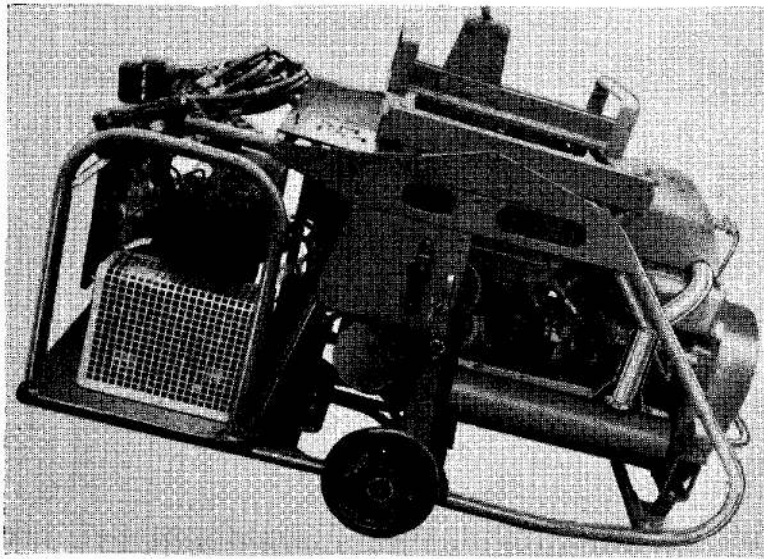
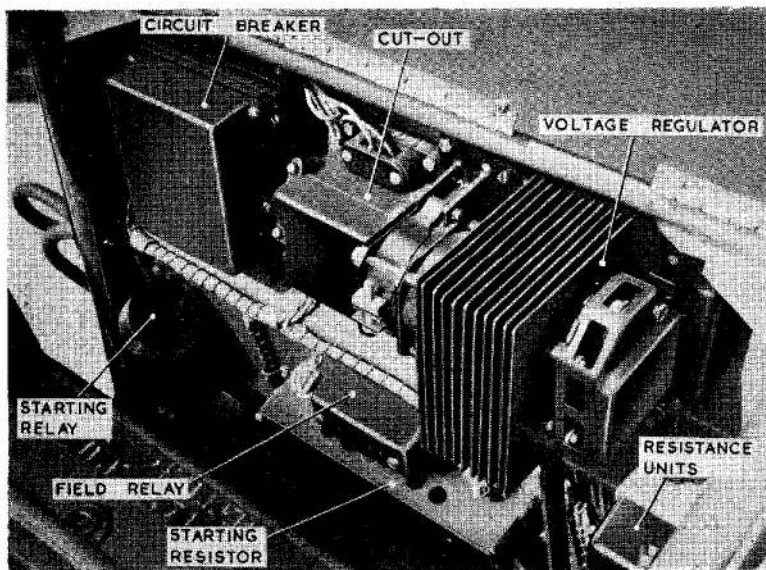
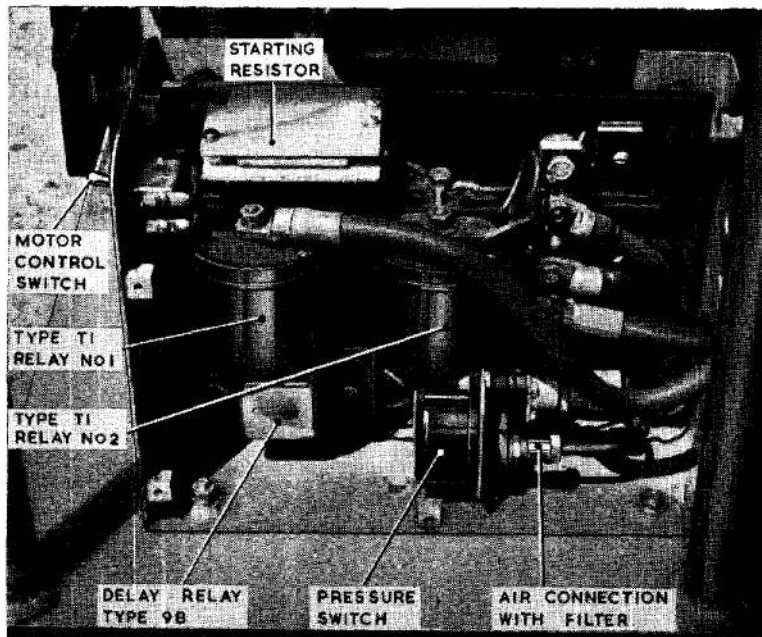
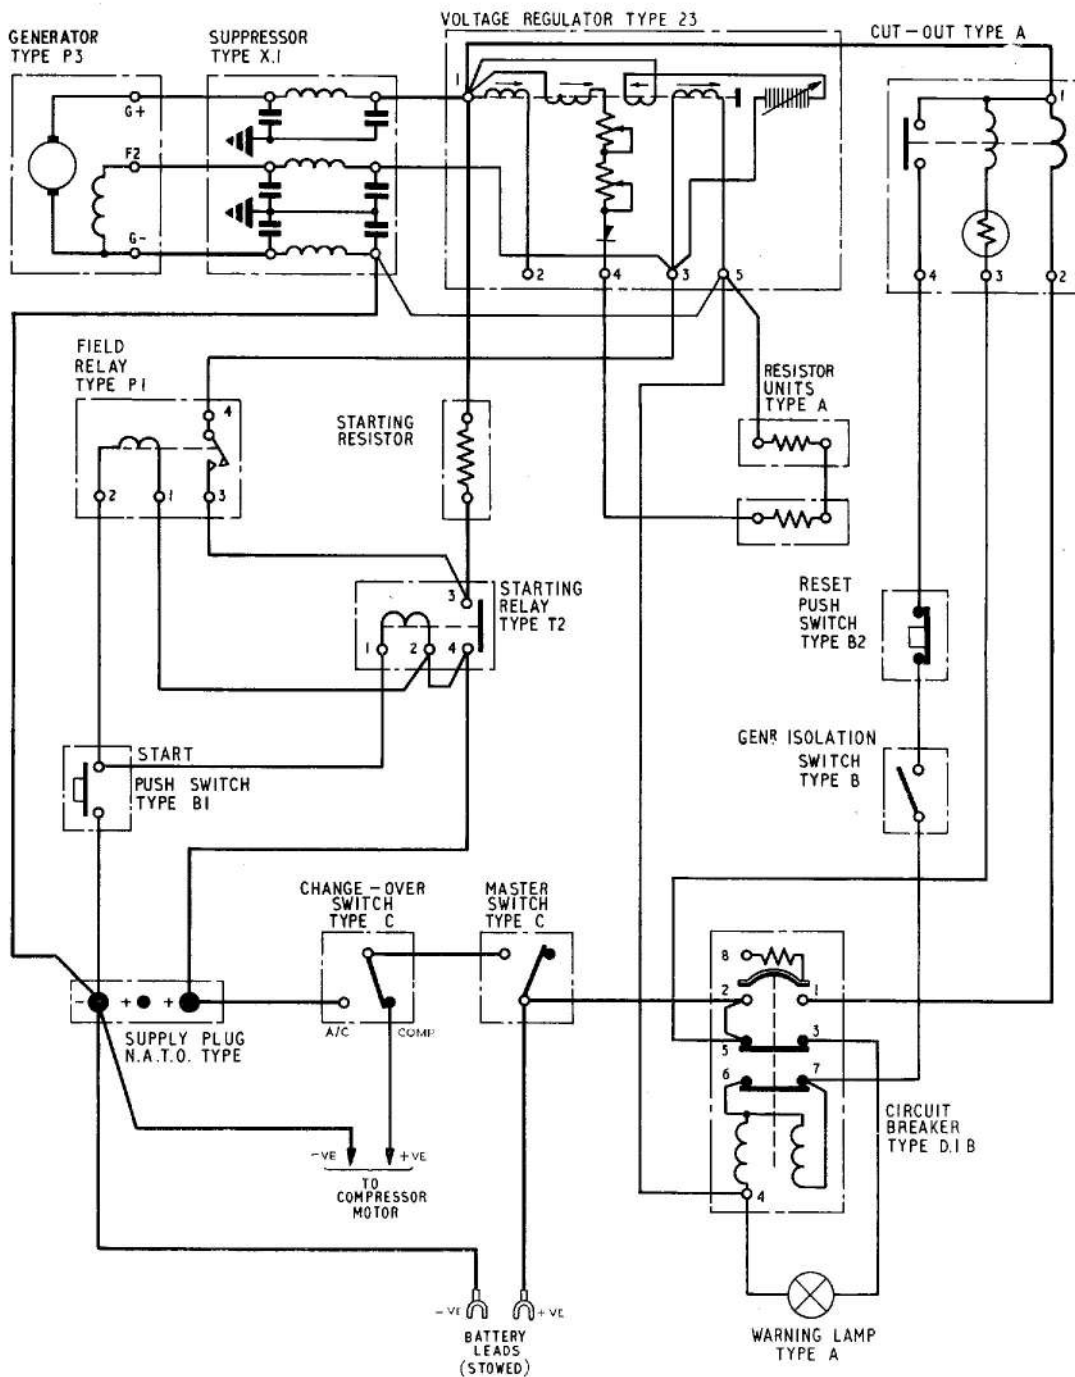

Fig. 1. Airborne auxiliary power plant
Fig. 2. Generator control panel
Fig. 3. Motor control panel
Fig. 6. Generator control circuit (theoretical)
2. The auxiliary power plant (*fig. 1*) comprises a tubular steel chassis equipped with retractable rubber wheels on which is mounted a 500 c.c. Triumph internal combustion engine coupled to a Type P3 generator. Control and protection equipment for the latter is mounted on a metal plate (*fig. 2*) located behind the air compressor. The motor-driven air compressor, together with its associated equipment, is mounted on a detachable platform bolted on to the main frame and is located at the end of the unit (*fig. 1*). A length of unipren 150 cable, fitted with N.A.T.O. sockets, is provided to connect the unit to the aircraft. Provision is made to connect a 24V, 40 A.H. battery to the trolley as shown in *fig. 6*, however, as a battery is not normally connected the battery cables are connected to a dummy stowage block.
5. The 28V d.c. motor, which is coupled to the air compressor, is supplied by the Type P3 generator when the aircraft compressor changeover switch, located on the side of the unit, (*fig. 1*) and the compressor
motor control switch (*fig. 3*), are appropriately selected. The high pressure air supply is alternative to the electrical supply provided by the auxiliary power plant. Information on the construction, operation and servicing of the compressor is given in Appendix 1 to this chapter.
6. The control panel (*fig. 3*) is mounted adjacent to the motor compressor, it is protected by a mesh guard as illustrated in *fig. 1*. The purpose of the control panel is to limit the current consumed by the compressor motor during starting, and to automatically disconnect the motor from its supply source when the air pressure acting on the pressure switch reaches the required value.
suppressor is fitted to eliminate radio interference due to ripple produced by the generator. The suppressor is located at the bottom of the electrical panel (*fig. 2*). Further information on this component may be found in A.P.4343C, Vol. 1, Book 3, Sect. 6.
9. The Type 23 voltage regulator is fitted to the right of the electrical panel (*fig. 2*). As may be seen from the circuit diagram (*fig. 6*) the decompounding coil (terminal 2) is not used, since load sharing facilities are not required on a single generator system. Since, in consequence, the generator voltage remains relatively constant, a Type 32 master regulator is not required and two type A resistance units are substituted for the carbon pile of the latter. These are connected between terminals 4 and 5 of the voltage regulator so enabling it to control the voltage at approximately 28V. A.P. 4343B, Vol. 1, Book 1, Sect. 1 provides detailed information on the Type 23 voltage regulator.